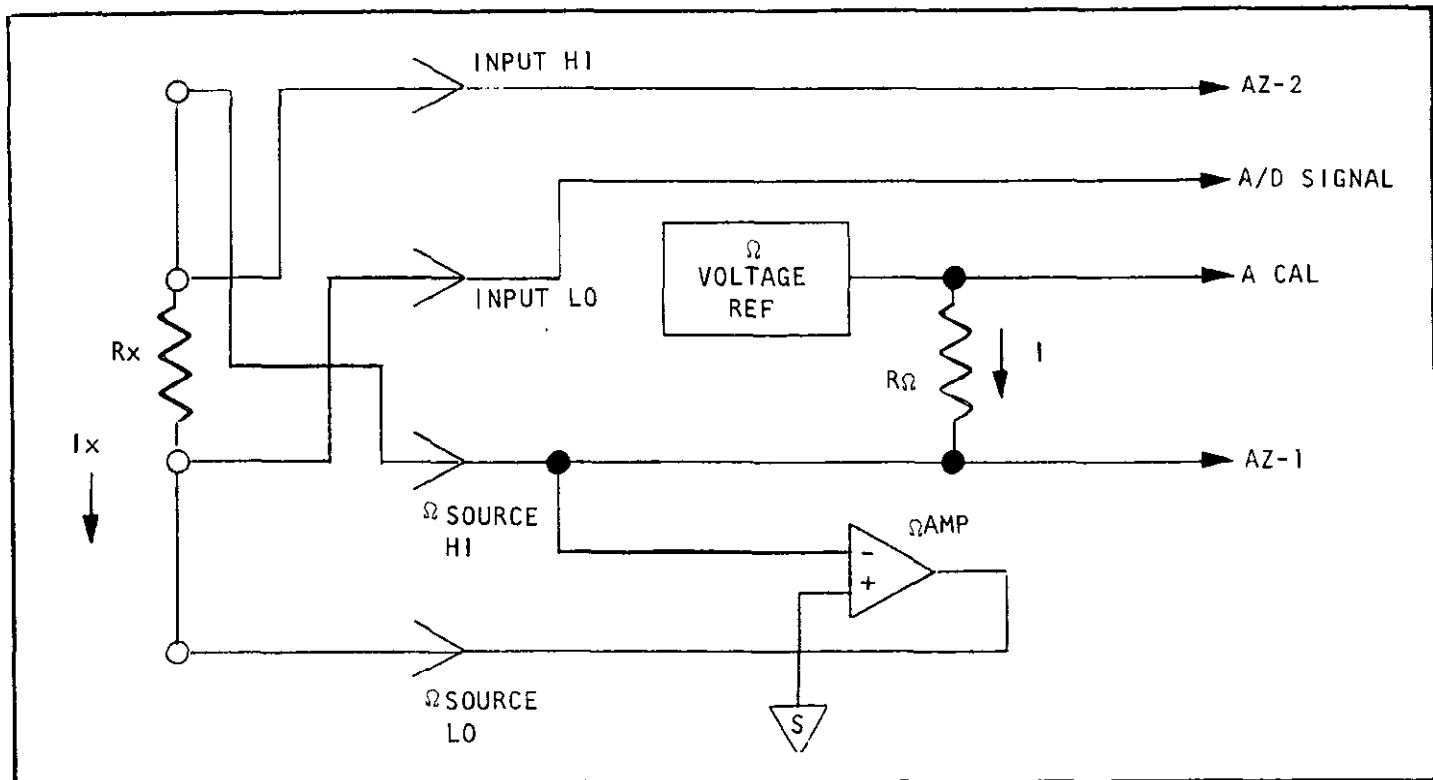

FIGURE 5-8. Four-Wire Ohms Measuring Technique.
5) The ohms converter circuit has been further simplified and redrawn to show the 4-Wire ohms configuration in Figure 5-8.